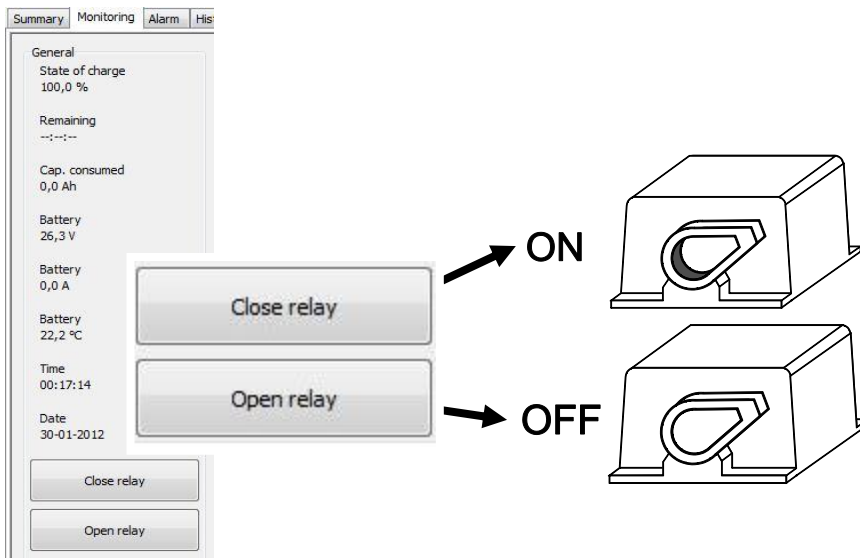

Figure 7-12: Buttons for closing and opening the relay
- 2 Enter on the MasterBus control panel the MasterBus MLi Ultra monitoring page. Operate the Close Relay button at the bottom of this page. If the relay is closed (On), the knob position must be shifted inwards. See figure 7-12.